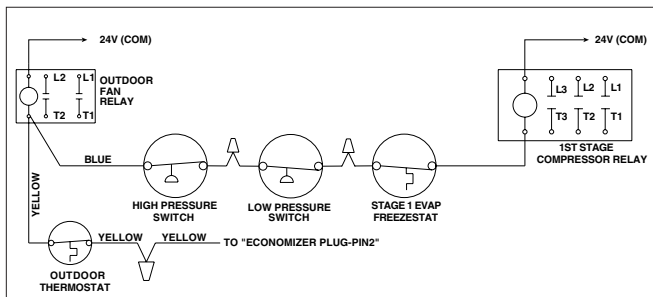

Figure 2a. R4GM-090* Factory Wiring
1. Remove "Blue" low voltage wire from outdoor fan 24V contactor coil. Cut off wire termination and strip wire approximately 3/8". Remove "Yellow" low voltage wire from outdoor fan 24V contactor coil, strip and terminate with closed end connector (provided) to eliminate the possibility of touching other electrical components (See Figure 2a).